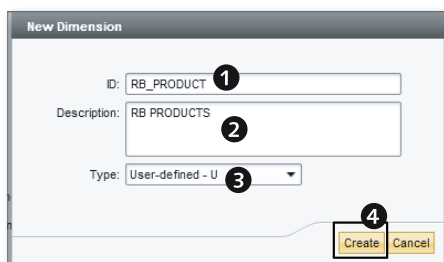

Figure 3.33 Creating a Custom Dimension—Part A
2. You're now prompted to enter the technical name and description of the dimension. Enter "RB_PRODUCT" for the technical name and "RB PRODUCTS" as the description (Figure 3.33, ❶ and ❷). Select USER-DEFINED – U as the dimension type from the dropdown list (Figure 3.33, ❸). Select CREATE (Figure 3.33, ❹).